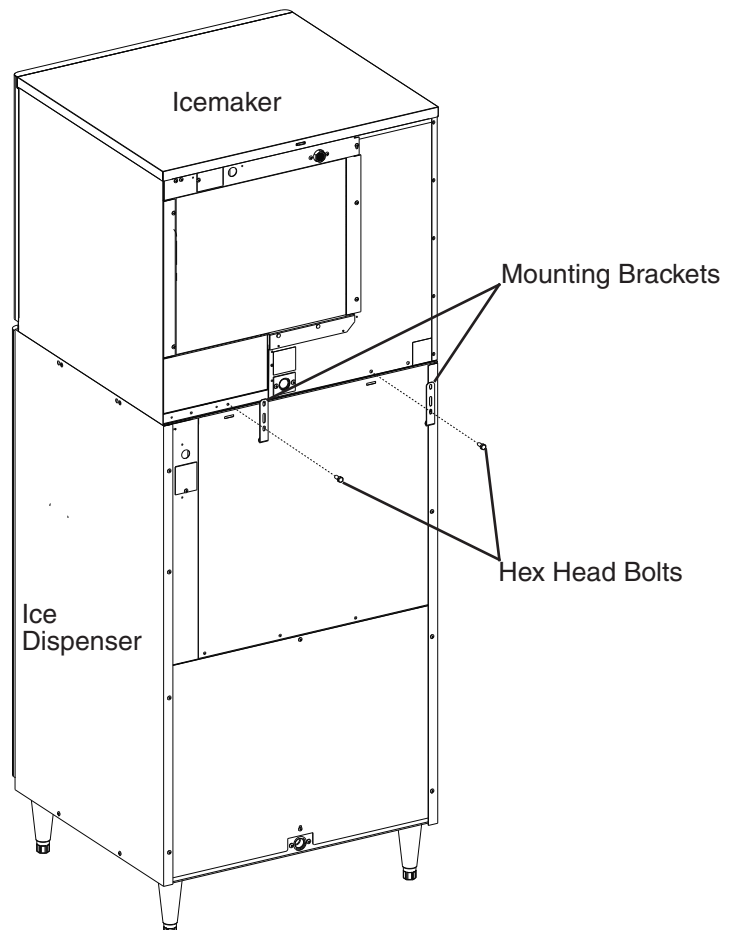

Fig. 6
- 5) Place the icemaker on top of the ice dispenser, then secure the icemaker to the ice dispenser using the 2 universal braces and hex head bolts included with the icemaker. Rotate the mounting brackets so that they fit flush to the dispenser unit. See Fig. 6.